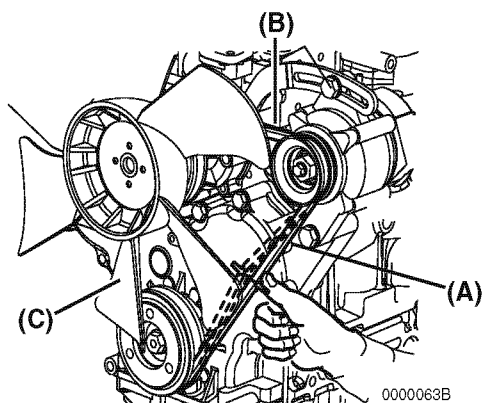

Figure 5-4
There are three positions to check for V-belt tension (**Figure 5-4, (A), (B) and (C)**). You can check the tension at whichever position is the most accessible. The proper deflection of a used V-belt at each position is: